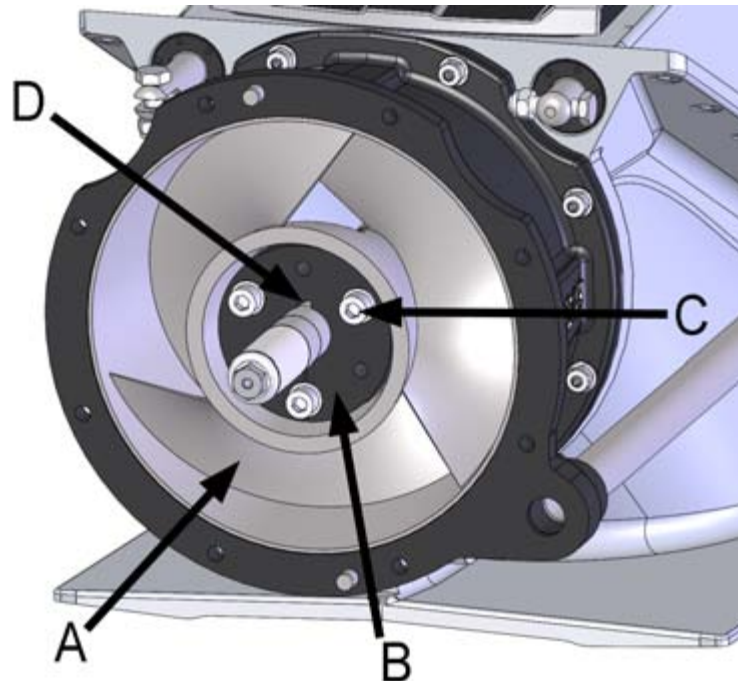

Figure 42. Impeller
The impeller (figure 42, point A) is attached to the jet's main shaft. As the impeller rotates, it generates pressure that is then transformed into the flow rate.
The impeller is attached to the shaft using a plastic cone (figure 42, point B), tightened between the impeller and shaft using three screws (figure 42, point C). The torque is transmitted to the shaft using a key (figure 42, point D).
1. Open the impeller fastening cone screws (3 pcs, figure 42, point C).